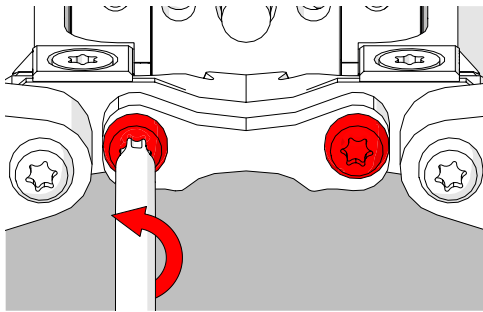

Fig. 42 - Loosen setup tab screws
12. Loosen the screws of the setup tab on both sides of the scanner (Fig. 42).